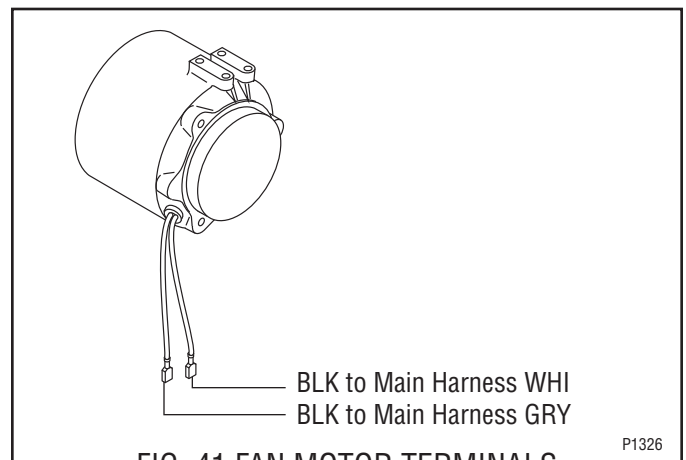

FIG. 41 FAN MOTOR TERMINALS
9. Install silencer (4) on new motor assy.
10. Install fan (3) on new motor assy.
11. Install speed nut (2) on new motor assy.
12. Using three #8-32 thread forming screws secure new motor assy to shroud/mount (6).
13. Using three #6-32 thread cutting screws secure new motor and shroud/mount to the condenser shroud (7).
14. Using two #8-32 locking screws secure condenser shroud and fan assy (1) to the chassis base.
15. Using four #8-32 crimp-tite screws secure the condenser shroud and fan assembly (1) to the condenser.
16. Refer to Fig. 41 and reconnect the leads on the new motor to the dispenser wiring harness.